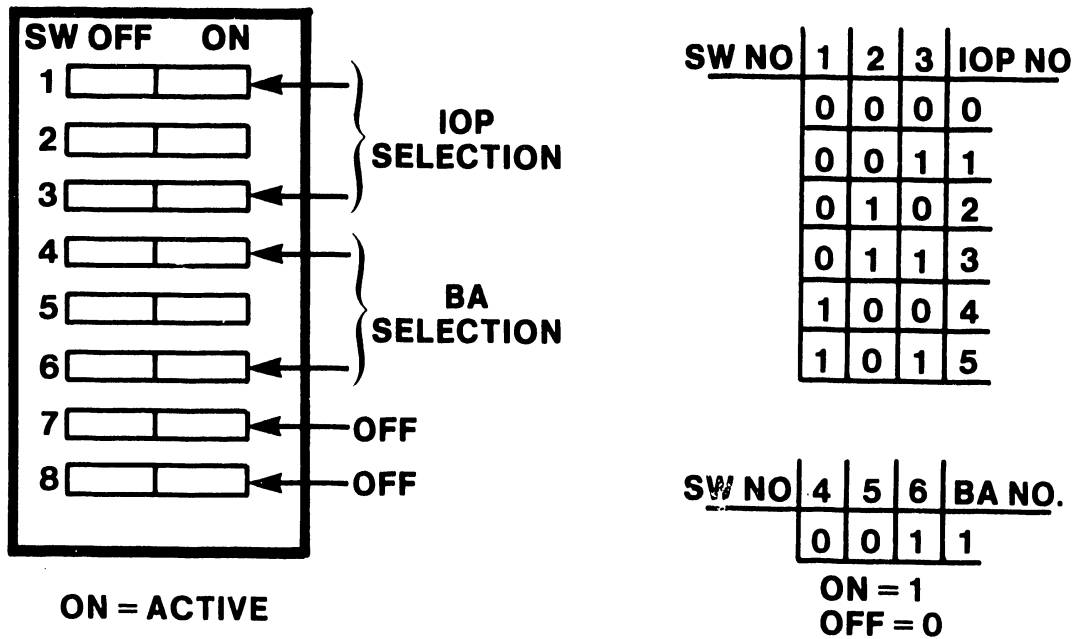

Figure 5-28. TC IOP Switch Settings
6. Before installing the 22V26-1/2/3 TC IOP, check the TC IOP switch settings as shown in figures 5-28 and 5-29.